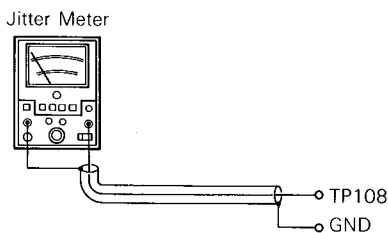

Fig. 17
- (1) Connect the jitter meter to TP108 and GND. (Fig. 17)
- (2) Insert the disc and place the unit in the play mode.
- (3) Adjust VR105 until the jitter becomes minimum.